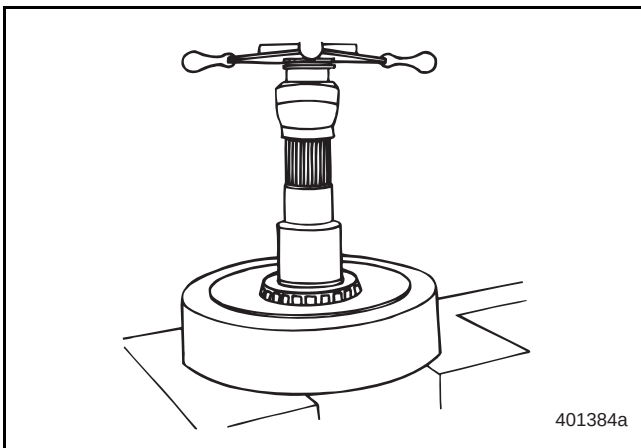

Figure 107 — Removing Inner Bearing Cone
7. If the bearings on the bevel pinion must be replaced, position the pinion shaft in a hydraulic press. Use the proper segments and adapter rings to remove the bearing. Refer to Figure 107 for the proper press setup. Refer to the Special Tools Chart on page 130 for the correct segments and adapter rings.